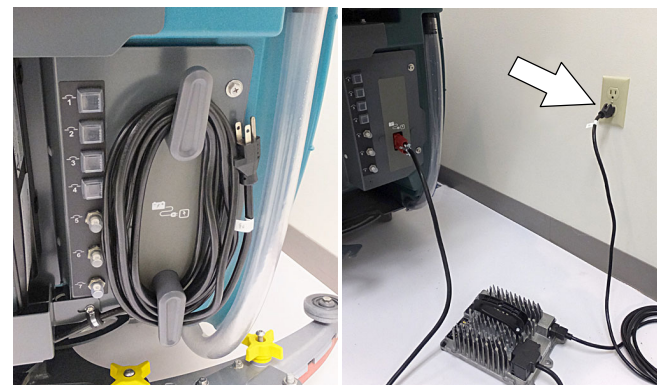

FIG. 76
6. After charging batteries unplug the power supply cord and wrap cord around the cord hooks (Figure 76).
For models equipped with an off-board charger, always disconnect the AC power supply cord first before disconnecting charger from machine (Figure 76).